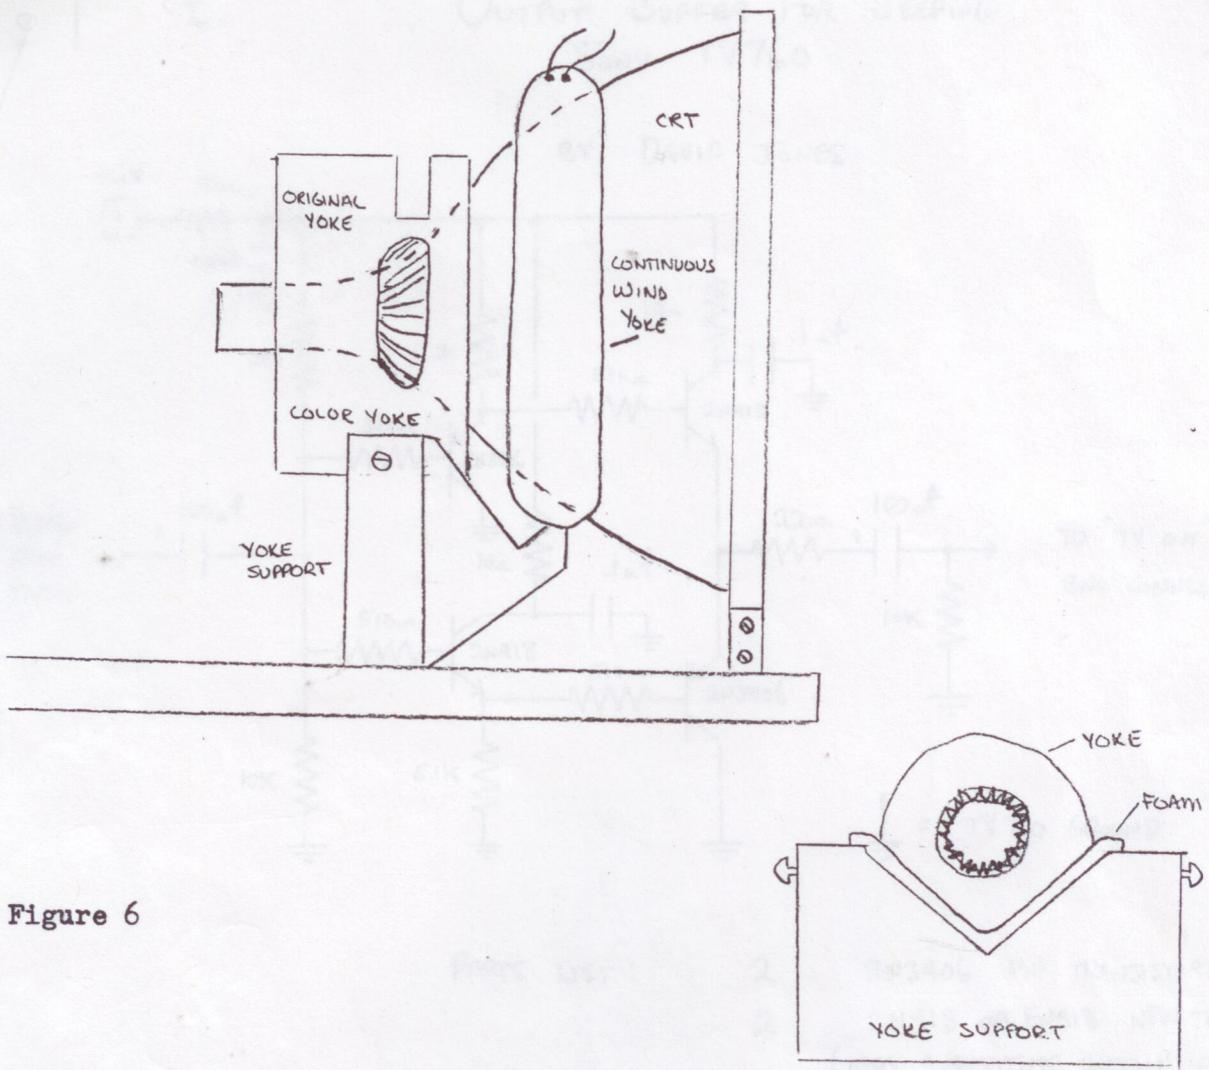

Figure 6
7. Position the color yoke behind the continuous yoke. Figure 6 shows the final configuration. The color yoke is supported by the 3/14 It X 7 n plywood support. The location of the support in relation to the front panel, distance A in Figure 3, depends on the size of the color yoke used. Cut a V shape from the 7" side of the support and put in the two screws half way. The precise shape of the V depends on the size of the yoke; it should be large and deep enough to support the color yoke at a height, which allows the color yoke to slide behind the continuous yoke but does not allow the color yoke to rest on the neck of the CRT. After the V has been cut, place the foam on top to protect the yoke. Slide the color yoke on behind the continuous yoke, position the V support and fasten support to the base by gluing. *Please note that the modern color yokes have to be quite large to fit over the existing yoke. This will leave some room for the next step, but not much. Make sure to position the yoke so that the horizontal sweep is on top.